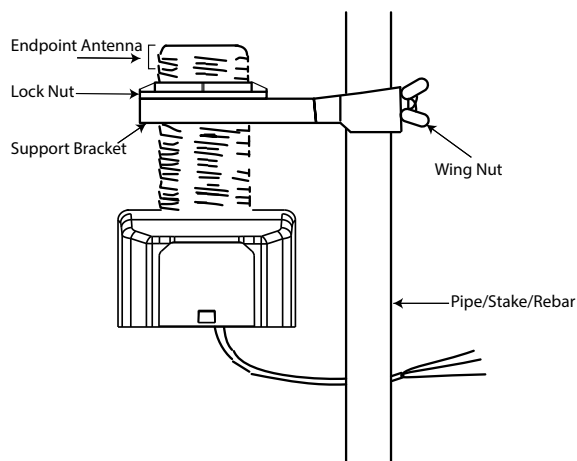

Figure 33: Pipe installation kit with ORION Cellular endpoints
3. Insert the threaded end of the endpoint up through the bottom of the bracket opening. Then thread the lock nut onto the endpoint and tighten the lock nut to secure the bracket (Figure 33). For pit installations, mount the endpoint a maximum of 1...2 inches (25...51 mm) below the pit lid. (NOT for ORION Cellular endpoints!)